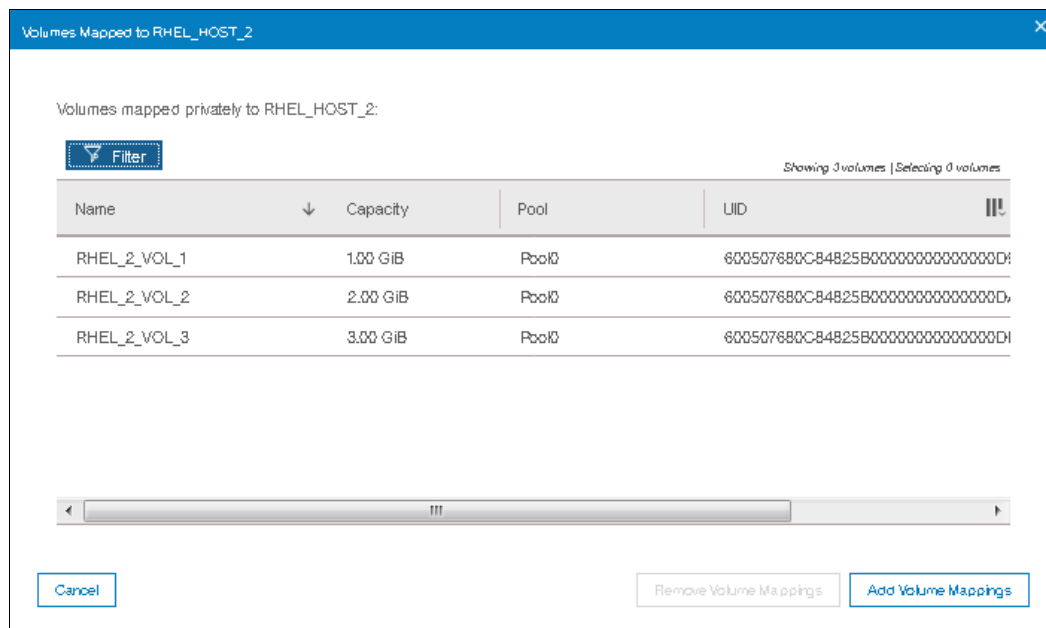

Figure 8-12 List of volumes mapped to the host
- Click **Modify Volume Mapping**. A window with a list of volumes currently mapped to the selected host will be shown as in Figure 8-12 on page 356.